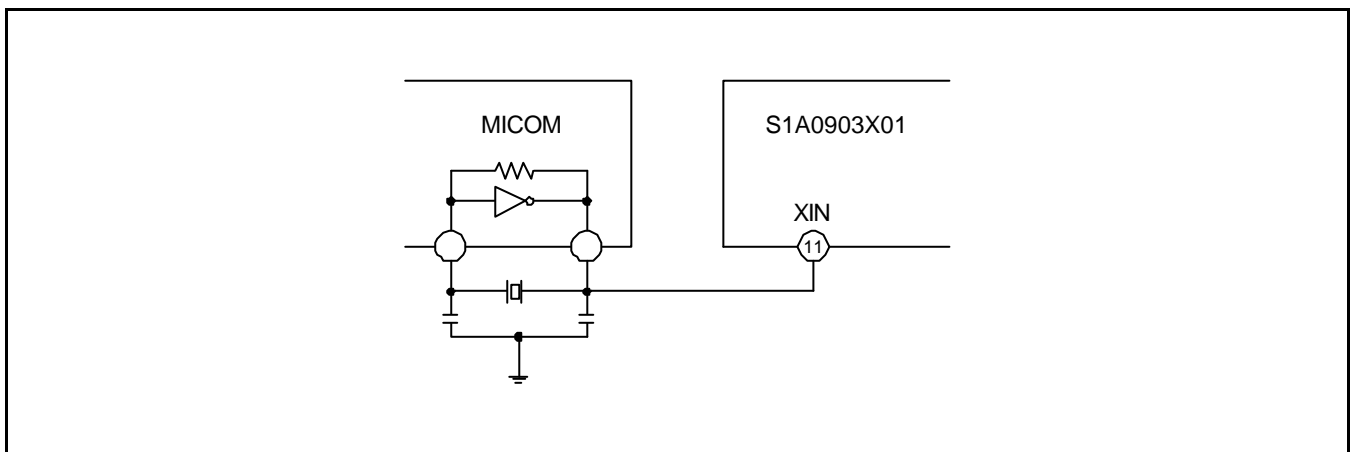

Figure. 20 Connection X'tal for Micro-processor
4. Crystal can be selectable among 75kHz, 3.6MHz, 7.2MHz, 10.8MHz. The connection must be the same as Figure. 20 to share crystal for Micro-processor